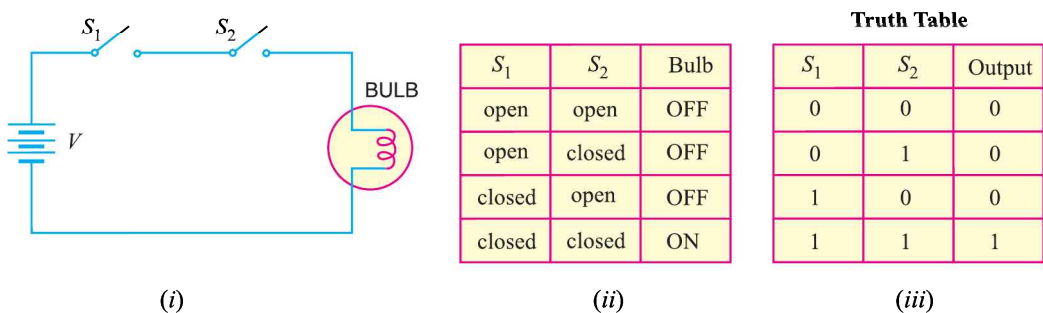

Fig. 26.5
Since a logic gate is a switching circuit (i.e. a digital circuit), its output can have only one of the two possible states viz., either a high voltage (1) or a low voltage (0) — it is either ON or OFF. Whether the output voltage of a logic gate is high (1) or low (0) will depend upon the conditions at its input. Fig. 26.5 shows the basic idea of a logic gate using switches.